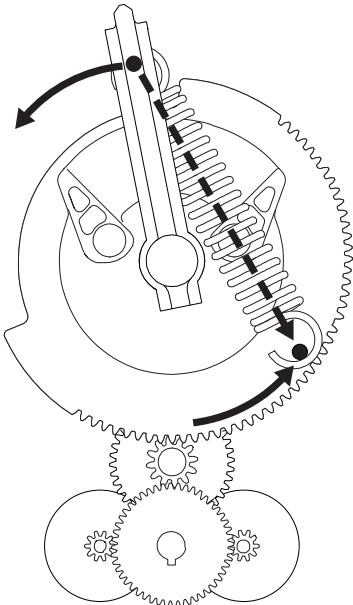

Figure 2-8. Spring Tension Over-Center
- Spring tension will draw the mechanism to over-center (*Figure 2-8*).